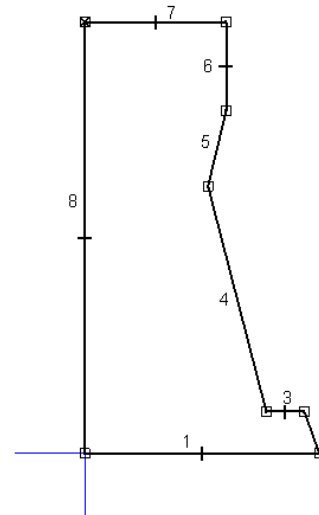

Figure 3-47 Profile for the revolved model
- d. Draw the required profile by using the **Line** tool, refer to Figure 3-47.
4. Complete the sketch of the revolved model by drawing the remaining lines by taking the reference of the first line, refer to Figure 3-47. The lines in this sketch have been numbered for your reference.